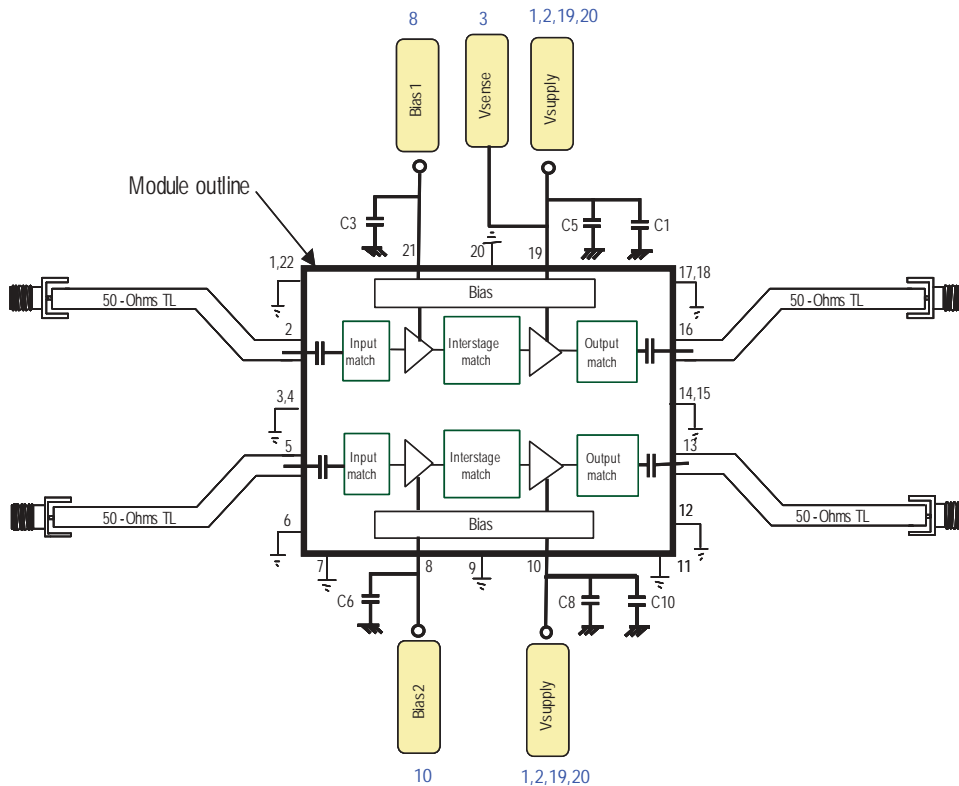

**Figure 5. Demo Board Layout Diagram**
$T_A = 25\text{ }^\circ\text{C}$ ,  $V_{dd} = 5\text{V}$  @  $280\text{mA}$ , RF performance at 2.0 GHz, given for each of the 2 RF paths, measured on demo board (see Fig. 5) unless otherwise specified.
7. Measurements at 2GHz obtained using demo board described in Fig 5.